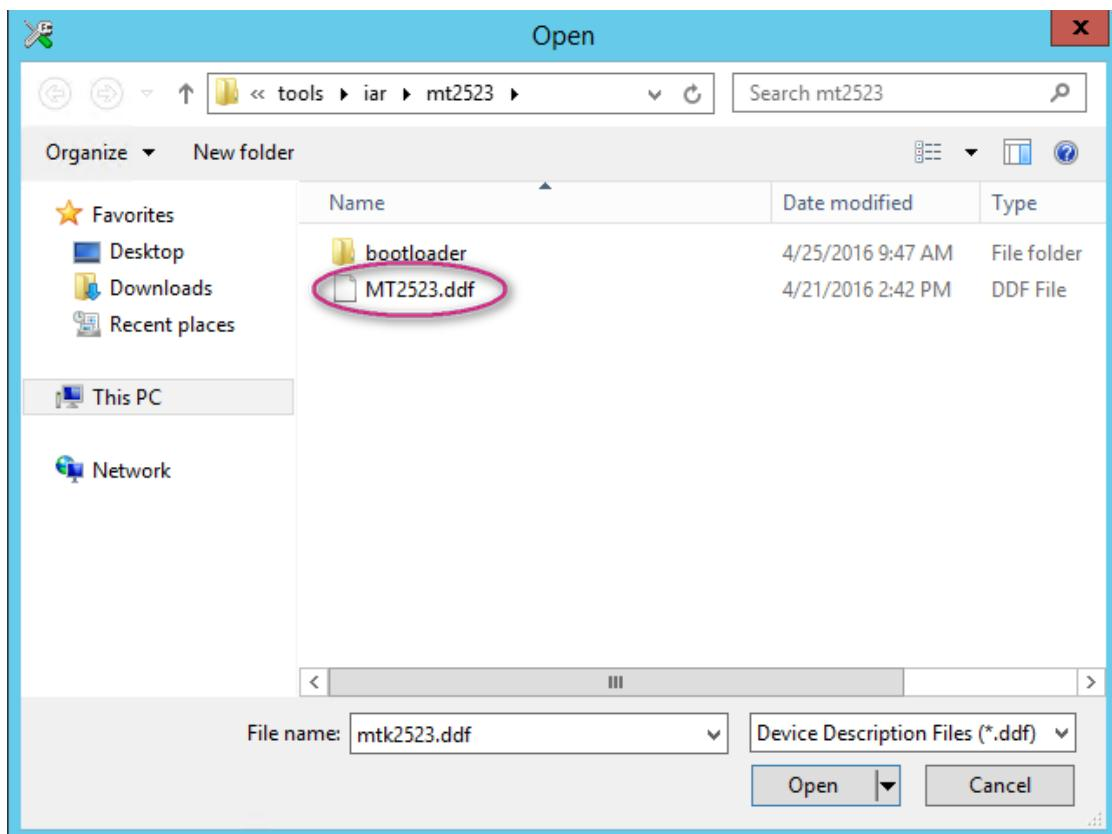

Figure 69. Open the MT2523.ddf file
- b) Set the **Device description file** to MT2523.ddf located under <sdk_root>\tools\iar\mt2523, as shown in Figure 69.